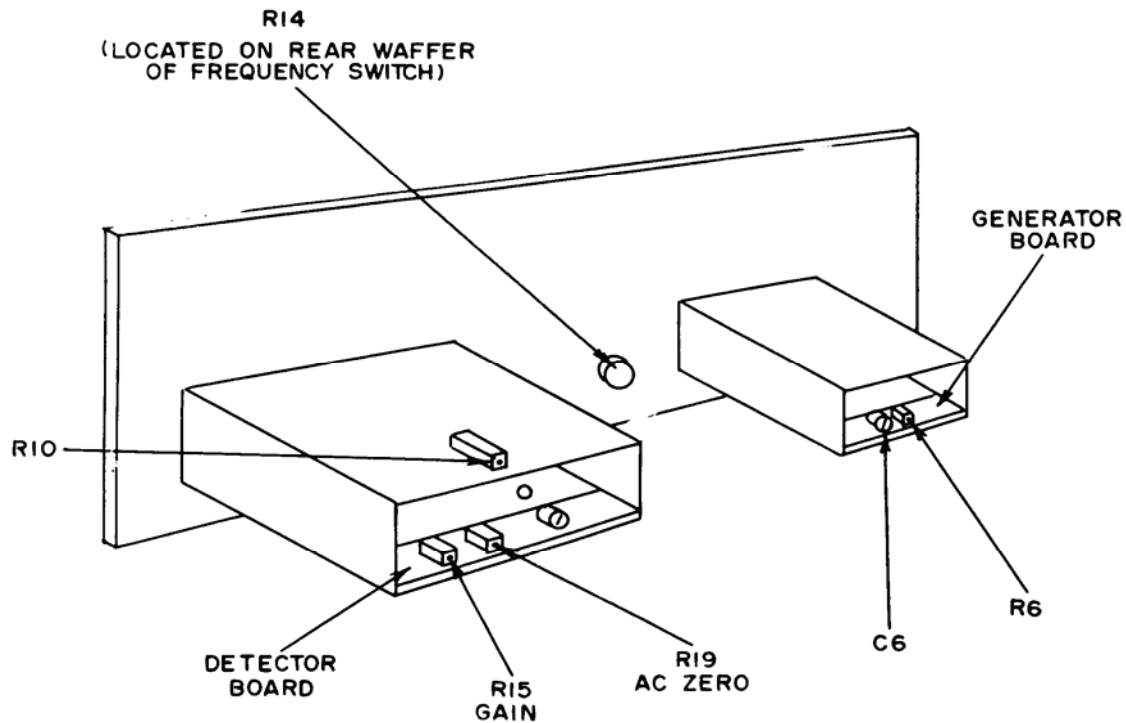

Figure 6. Model 865A - rear internal view.
- (1) **FREQUENCY** switch to **DC**.
- (2) **GENERATOR ON/OFF** switch to **OFF**.
- (3) **GENERATOR ± Polarity** switch to + (positive)
- (4) **GENERATOR POWER LIMIT** control to 0 (zero).
- (5) **DETECTOR SENSITIVITY HIGH/LOW** switch to **HIGH**.
- (6) **DETECTOR SENSITIVITY** control fully cw.
- (7) **DETECTOR ZERO** control on midrange.
- (8) **DETECTOR LOG/LIN** switch to **LIN**.
- g. If TI meter does not indicate 0 (zero) adjust R10 (fig. 6) for a 0 (zero) indication.
- i. Set **DETECTOR SENSITIVITY HIGH/LOW** switch to **LOW**. If TI meter does not indicate 0 (zero), adjust R19 AC ZERO (fig. 6) for a 0 (zero) indication.
- j. Repeat **d** (5) and (6) and **g** through **i** above until TI meter indicates 0 (zero) in **g** and **i**.
- (1) Set **FREQUENCY** switch to **1 kHz** and rotate **GENERATOR POWER LIMIT** control fully cw.
- (2) Connect multimeter and frequency counter to **TI GENERATOR AC OUTPUT** terminals **1** and **2**.
- (3) Set **GENERATOR ON/OFF** switch to **ON**. If multimeter does not indicate at least **6 V ac**, perform **b** (1) below. If frequency counter does not indicate between **990** and **1,010 Hz (hertz)**, perform **b** (2) below.
b. Adjustments (fig. 6)
- (1) Adjust **R6** for a **6 V ac** indication on multimeter (R).
- (2) Adjust **C6** for a **1 kHz** indication on frequency counter (R).
- (1) Press **ON/OFF** pushbutton to **OFF** and adjust **DETECTOR SENSITIVITY** control to midrange.
(2) Connect fixed resistor directly across TI **GENERATOR AC OUTPUT** terminals **1** and **2**.
(3) Connect TI **GENERATOR AC OUTPUT** terminal **2** to TI **DETECTOR AC INPUT** terminal **2**.
(4) Press **ON/OFF** pushbutton to **ON**. Adjust R14 (fig. 6) until meter indicates null (low point, not zero).
(5) Set **GENERATOR** \pm polarity switch alternately between **+** (positive) and **-** (negative). If TI meter indication is not within one minor division in either position, perform **b** below.
b. Adjustments (fig. 6). Set **GENERATOR** \pm polarity switch alternately between **+** (positive) and **-** (negative) while adjusting R14 for same TI meter indication in either position.
(1) Connect function/arbitrary generator 50-ohm output terminal to TI **DETECTOR AC INPUT** terminals **1** and **2**, using cable and termination.
(2) Adjust function/arbitrary generator controls for a 100 μ V output with frequency at 1 kHz.
(3) Set **DETECTOR SENSITIVITY HIGH/LOW** switch to **HIGH** and rotate **DETECTOR SENSITIVITY** control fully cw. If TI meter does not indicate full scale, perform **b** below.
(4) Set **DETECTOR SENSITIVITY HIGH/LOW** switch to **LOW**.
(5) Adjust function/arbitrary generator controls for a 10 mV output. TI meter will indicate full scale or near full scale.
b. Adjustments. Adjust R15 **GAIN** (fig. 6) for a full-scale indication on TI meter.